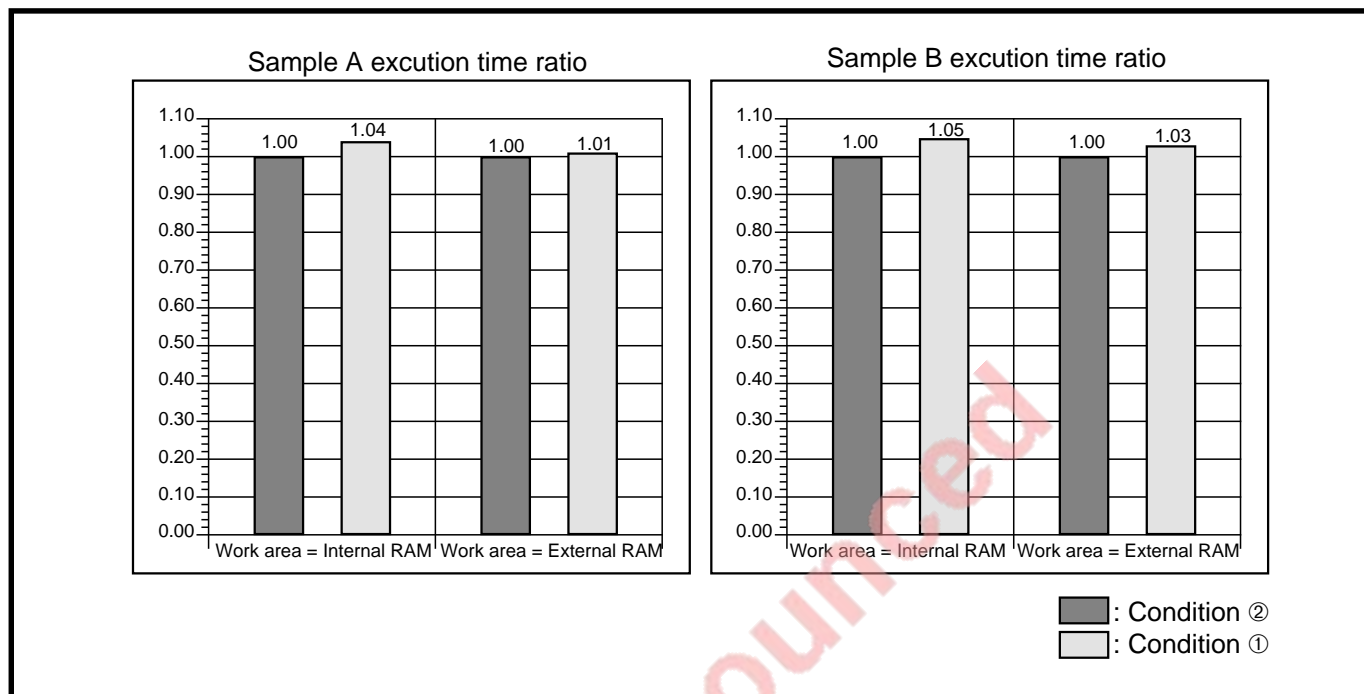

Fig. 16.3.3 Execution time ratio
Figure 16.3.3 shows the execution time ratio when sample programs in Figure 16.3.1 are executed on the two conditions in Table 16.3.2. Figure 16.3.2 shows the memory assignment at execution rate comparison. The execution time ratio depends on the program or the usage conditions.
Figure 16.3.3 shows that there is almost no difference between conditions ① and ② about the execution time. The bus buffers become unnecessary when using the specified memory. (Refer to “Table 16.1.6.”) Considering this, the case where software Wait is inserted with  $f(X_{IN}) = 20$  MHz (condition ①) is superior in the cost performance.